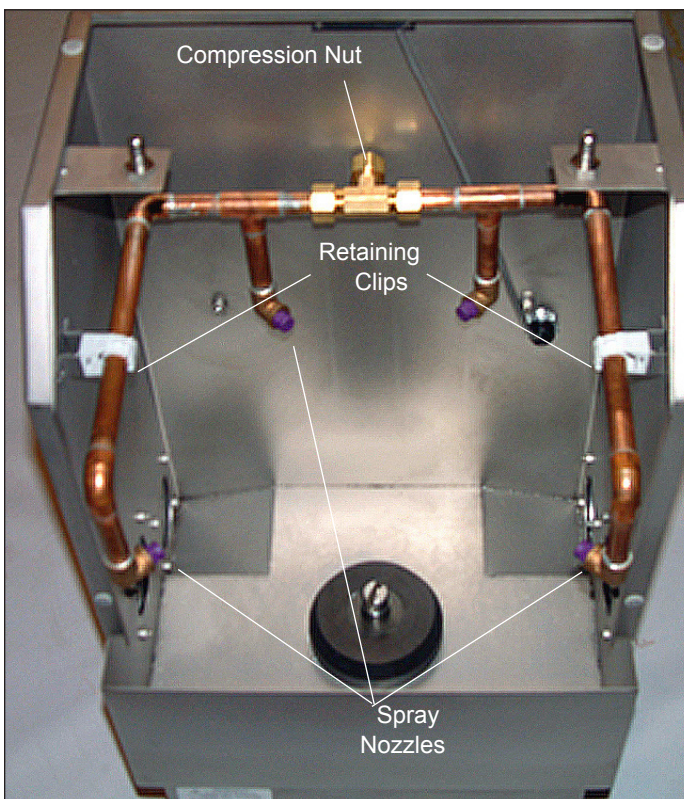

Figure 21.
5. Loosen compression nut on “tee” fitting at the top rear of the cabinet (Figure 21).
6. Using a screwdriver, carefully unsnap copper tubing from retaining clips on both sides of cabinet and remove plumbing assembly (Figure 21).
2. Remove spray nozzles from tubing assembly using either a box or socket wrench (Figure 21).